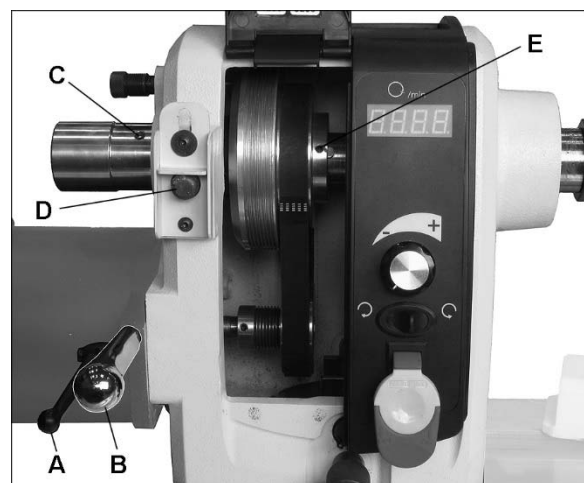

Figure 9-12
The motor and spindle pulleys are aligned with each other by the manufacturer, but if any service is performed that affects their alignment it is very important that they be realigned. Engage spindle lock, loosen two set screws on spindle pulley (E, Figure 9-12) with 3mm hex key, and slide spindle pulley into proper position. Retighten set screws, and disengage spindle lock.
See Figure 9-12.
2. Loosen pivot lock handle (A, Figure 9-12) and lift up tension handle (B) to raise motor.
3. Tighten pivot lock handle (A) to secure motor in raised position.
5. Loosen two set screws on handwheel (C).
6. Engage spindle lock (D) and unscrew handwheel from spindle (left-hand threads, clockwise to loosen).
8. If replacing a pulley, loosen both set screws (E), and slide pulley off spindle.
11. Reinstall handwheel (C) and tighten set screws.